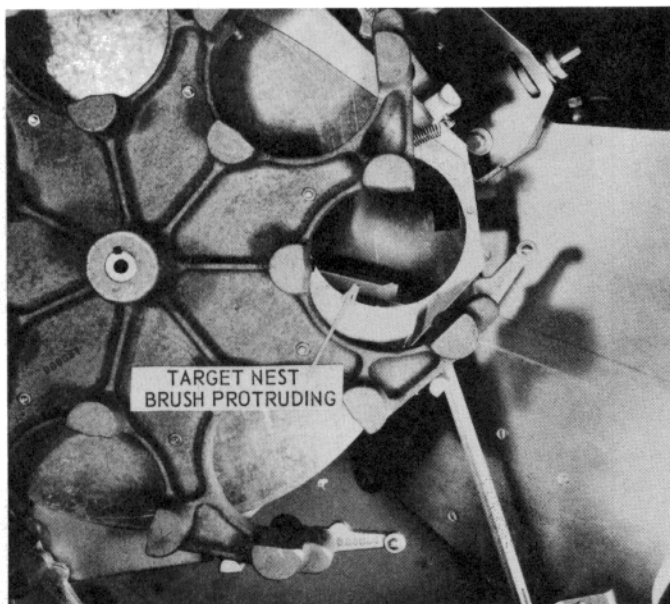
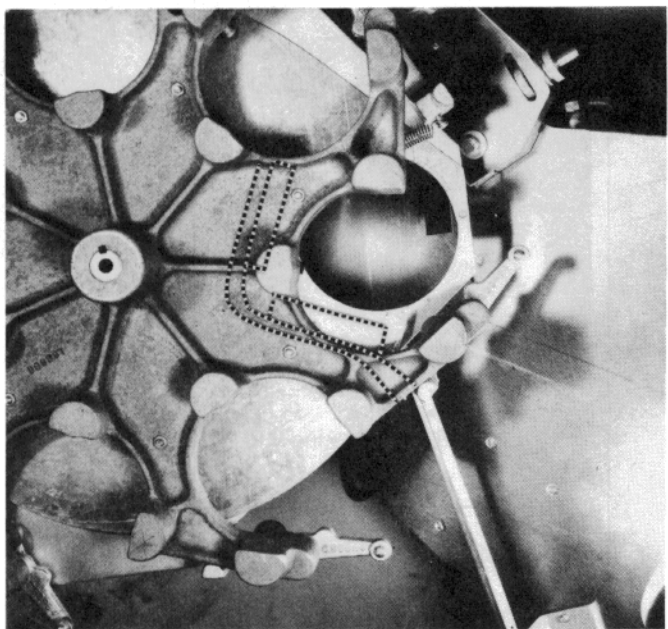

Figure 10 — Target Nest Mounted Incorrectly
Figure 11 — Target Nest Mounted Correctly
5. Check that the target nest brush will not interfere with the targets as they drop from the magazine. This is done by standing directly above the magazine and peering down through the hole through which the targets are dropped onto the platform. The target nest arm and brush mounting plate should not be protruding into the path of the target when it is dropped (see Figure 10). The arm and mounting plate should be just out of view of the observer (see Figure 11).